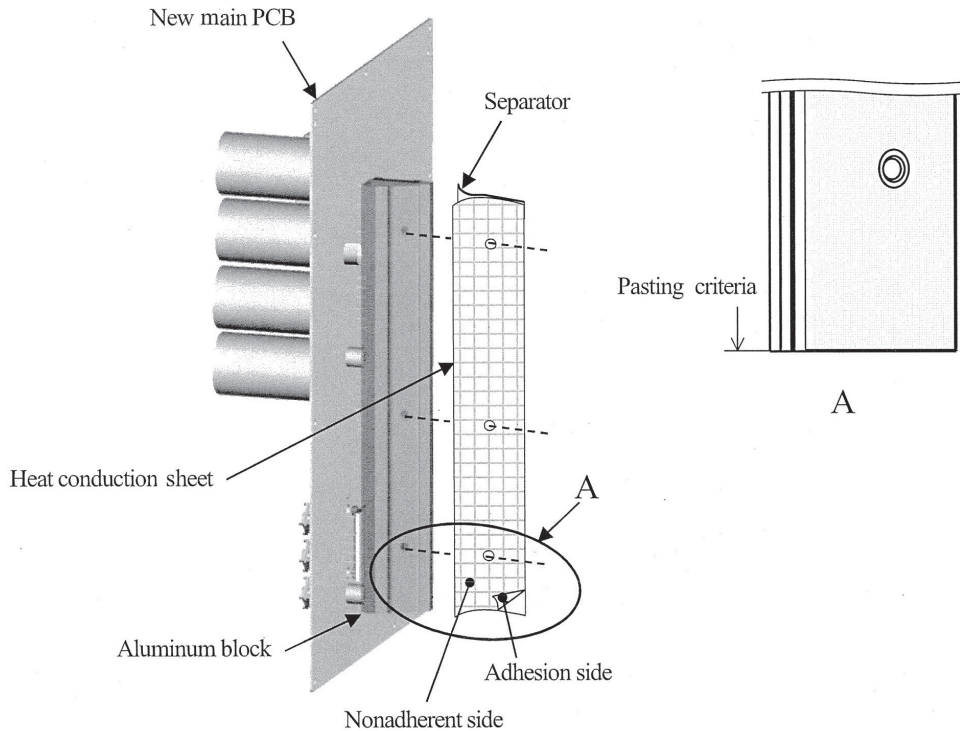

Fig.5 Detail of paste for the heat conduction sheet
- b) Turn over the separator of new heat conduction sheet and paste the heat conduction sheet on the aluminum block. (Refer to Fig.5)